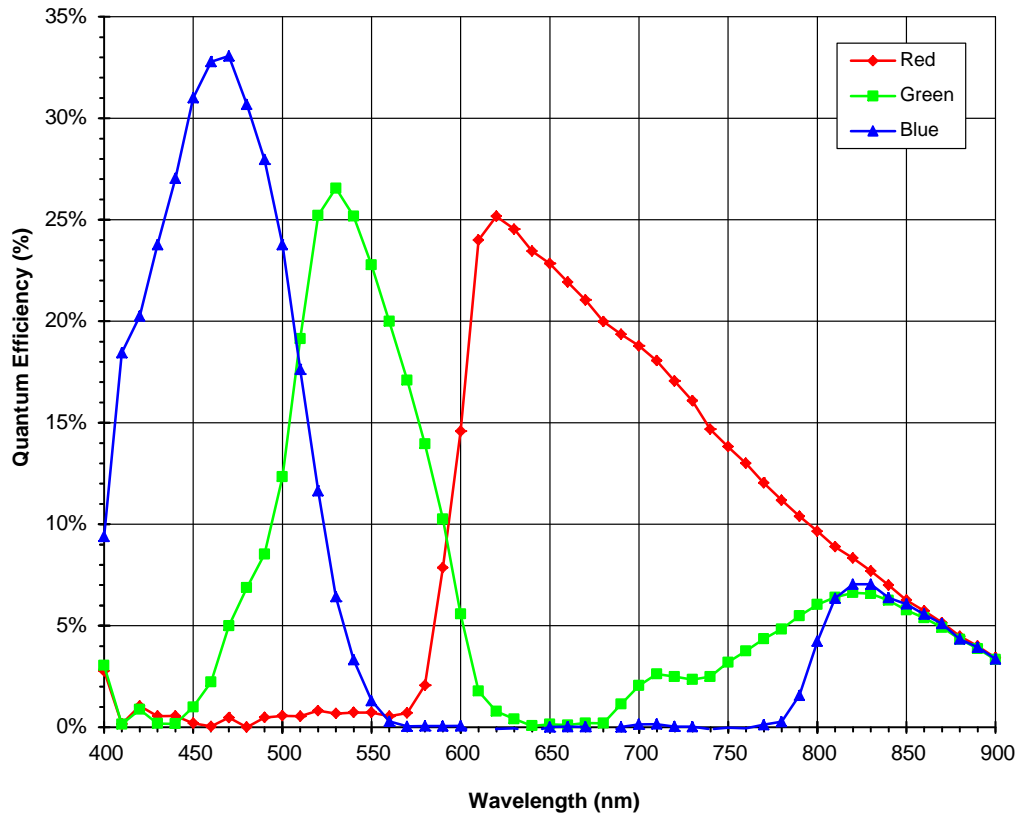

Figure 5. Nominal KAI-0330-CBA Spectral Response
2. Refer to typical values from Figure 5.